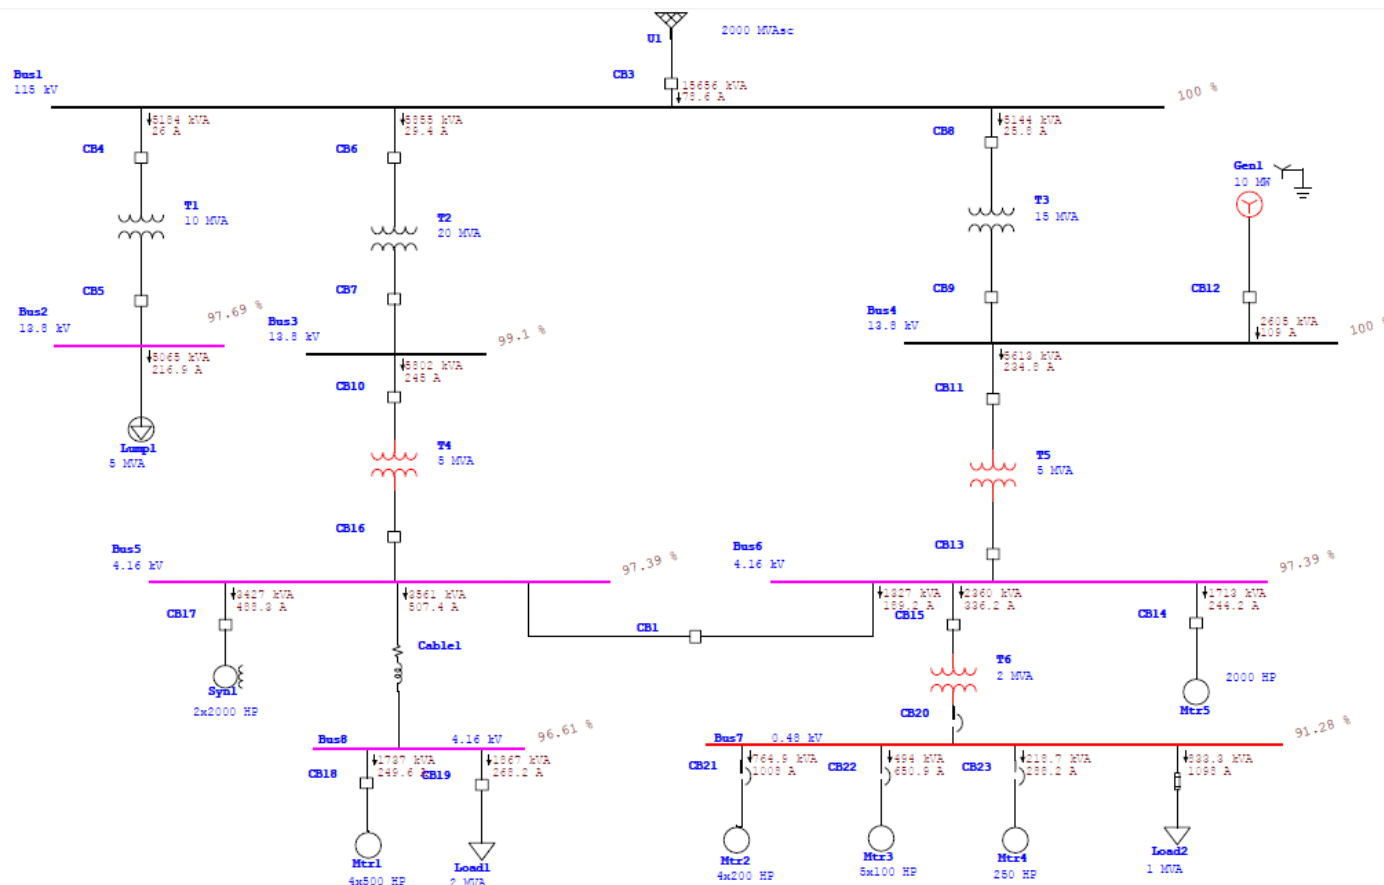

Fig. 2 Power System Diagram After Running Load Flow Analysis (Close-tie Configuration)
For Protecting our components we have to set Relays. For setting Relays we need to configure Current Transformer (CT). For CT we need CT Ratio as an Input Value for CT. For Turn Ratio of CT we need Maximum Load Current Flowing through each component. So, To get this data Firstly we did a Load Flow Analysis of this Power System. It brought about showing the current and the power of each branch in the diagram. These outcomes are appeared in Figure 2.